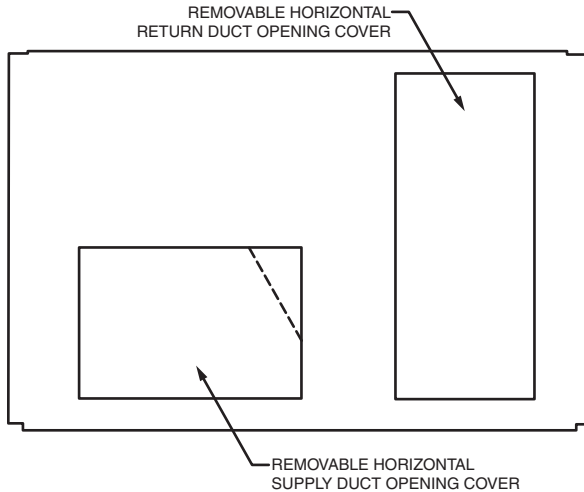

Fig. 7 — Horizontal Conversion Panels
Step 7 — Convert to Horizontal and Connect Ductwork (when required) — Unit is shipped in the vertical duct configuration. Unit without factory-installed economizer or return air smoke detector option may be field-converted to horizontal ducted configuration. To convert to horizontal configuration, remove screws from side duct opening covers and remove covers. Using the same screws, install covers on vertical duct openings with the insulation-side down. Seals around duct openings must be tight. See Fig. 7.